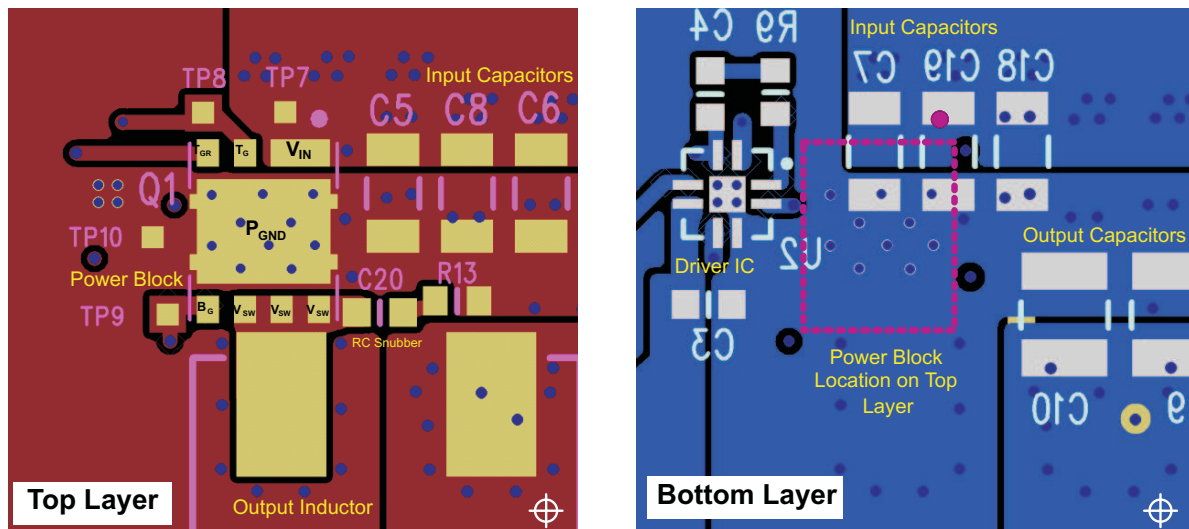

Figure 34. Recommended PCB Layout (Top View)
- The placement of the input capacitors relative to the power block's VIN and PGND pins should have the highest priority during the component placement routine. It is critical to minimize these node lengths. As such, ceramic input capacitors need to be placed as close as possible to the VIN and PGND pins (see Figure 34). The example in Figure 34 uses 6 × 10-μF ceramic capacitors (TDK Part C3216X5R1C106KT or equivalent). Notice there are ceramic capacitors on both sides of the board with an appropriate amount of vias interconnecting both layers. In terms of priority of placement next to the power block, C5, C7, C19, and C8 should follow in order.
- In the event the switch node waveform exhibits ringing that reaches undesirable levels, the use of a boost resistor or RC snubber can be an effective way to reduce the peak ring level. The recommended boost resistor value will range between 1 Ω to 4.7 Ω depending on the output characteristics of driver IC used in conjunction with the power block. The RC snubber values can range from 0.5 Ω to 2.2 Ω for the R and 330 pF to 2200 pF for the C. Refer to Snubber Circuits: Theory, Design and Application (SLUP100) for more details on how to properly tune the RC snubber values. The RC snubber should be placed as close as possible to the Vsw node and PGND see Figure 34. ⁽¹⁾
- Use the smallest drill size allowed in your design. The example in Figure 34 uses vias with a 10-mil drill hole and a 16-mil capture pad.